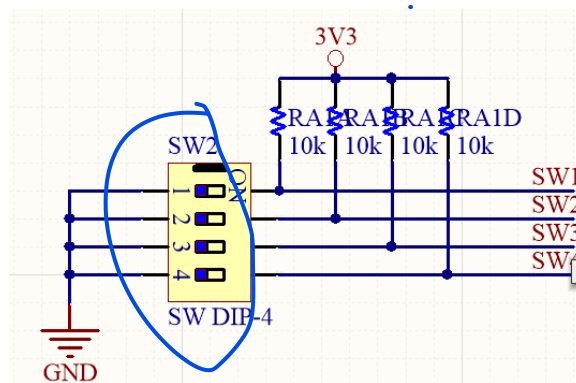

Figure 1.4: Switches
- [1] Research on the Internet and list 5 different current sensors that you can find. Along with each current sensor, please (1) give a reference source, (2) maximum current that the sensor can measure, and (3) how to obtain its values (e.g, using ADC, UART, I2C or SPI and so on).
- [2] In Figure 1.4, what is the voltage of SW1 when slide switch 1 is ON? and is OFF?